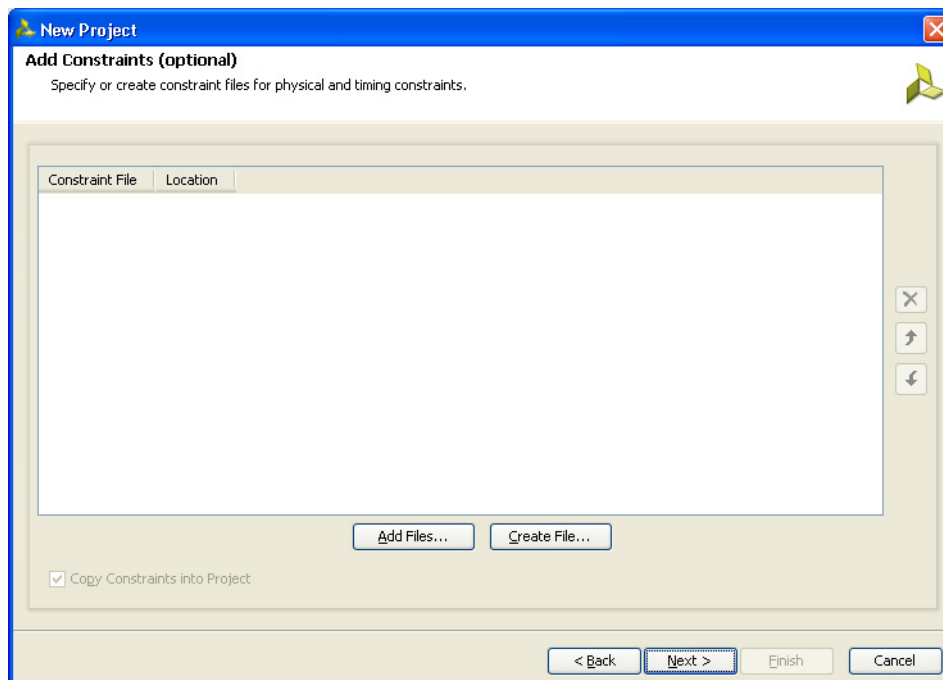

Figure 1-7: Add Constraints (Optional)
7. Click **Next** to open the Add Constraints (Optional) page (Figure 1-7). If the constraints file exists in the repository, it can be added to the project. Proceed to the next page if the constraints file does not exist.